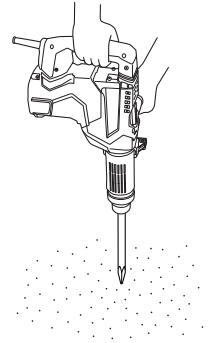

Fig. 8
2. How to chisel or crush (**Fig. 8**)